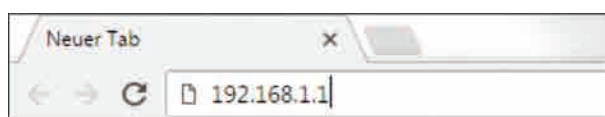

Fig. 31-23 Address field
6. Type "192.168.1.1" into the IP address field (Fig. 31-23) and open. The NivuFlow Mobile display (Fig. 31-24) is indicated as soon as the connection has been established successfully.